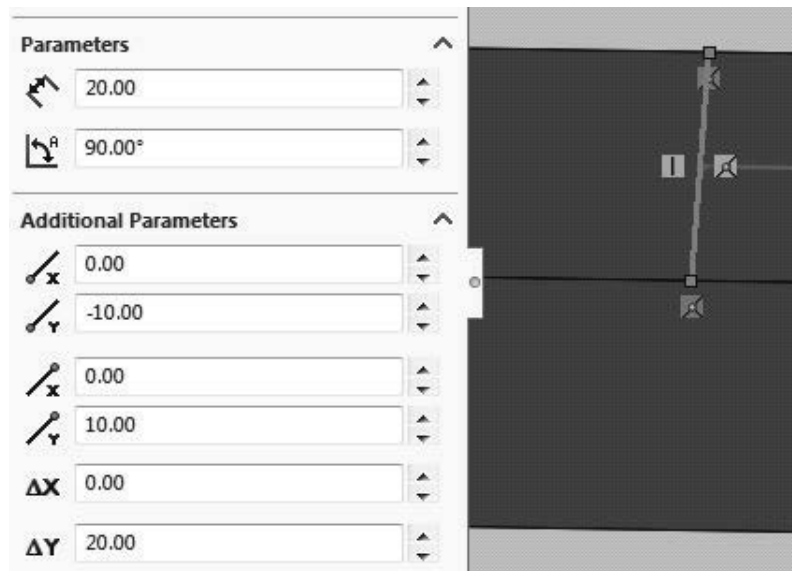

Figure 2.10 Drawing of a line in the Z-direction
10. Next, we will create a split line. Repeat step 6 once again but this time select the **Top Plane** and draw a line in the Z-direction through the origin on the lower inner surface of the sketch. It will help to zoom in and rotate the view to complete this step. Set the **Parameters** and **Additional Parameters** to the values shown in figure 2.10 and close the dialog. Click on the **Rebuild** symbol.